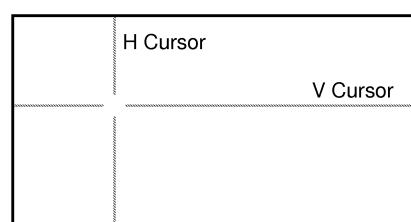

Fig. 4-8
- Move the Character Blink to be compensated Scratch Number, and set the Colour Bar Switch to the Bar side, the Scratch Compensation Cursors will be displayed on the Monitor as shown in Fig. 4-8.